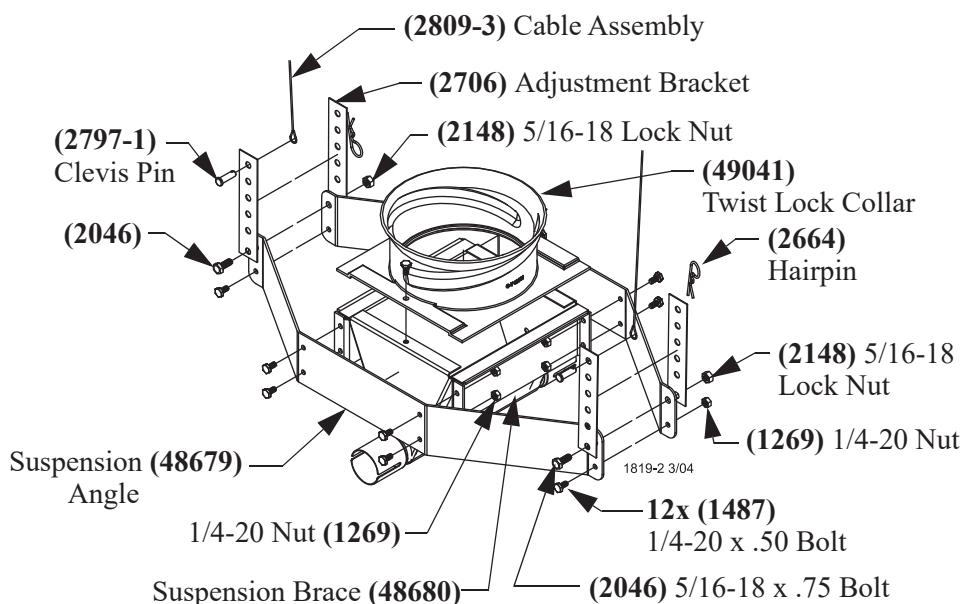

Figure 22. Cable Assembly
4. Assemble suspension angles and suspension braces around feeder line boot (single or twin), using 1/4-20 x 1/2" Hex bolts and nuts (supplied in hardware package), (See Figure 22.)
5. Assemble the twist lock collar to the top of the feeder line boot (single or twin) using 1/4-20 x 1/2" bolts and lock nuts (supplied in hardware package) (See Figure 22.)
7. Two cable assemblies (cable with a sleeve clamp and a 5/32 thimble) are supplied with the suspension kit to support the hopper. Attach the cable assemblies to the adjustment brackets using the top holes of the adjustment brackets, (See Figure 22.)